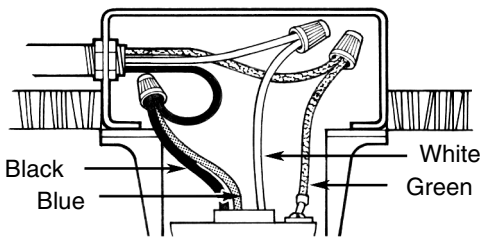

Fig. 10
- ❖ Fold the connected wires (*see figure 10*) and push them up inside the electrical junction box with the black and blue wires to one side and the white and green to the other side. Make sure the wire nuts do not come loose during this operation.